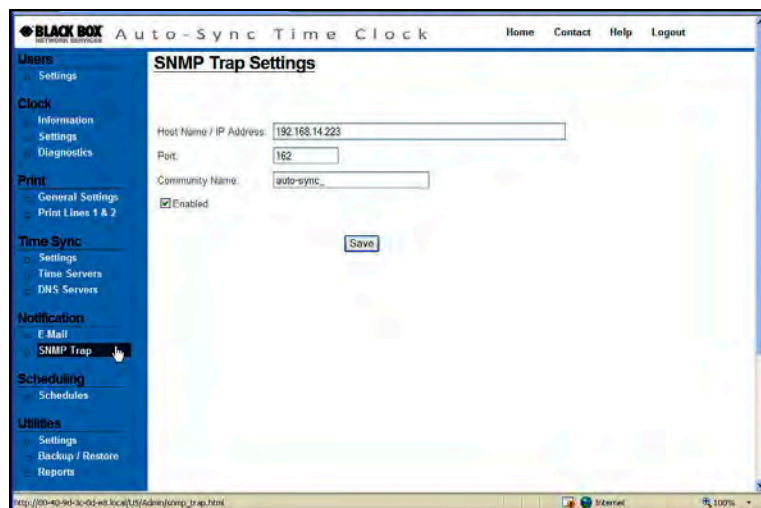

Figure 4-19. SNMP Trap Settings for E-mail Notification.
1. Click on the **SNMP Trap** link under Notification, and the **SNMP Trap Settings** screen will appear (see *Figure 4-19*).